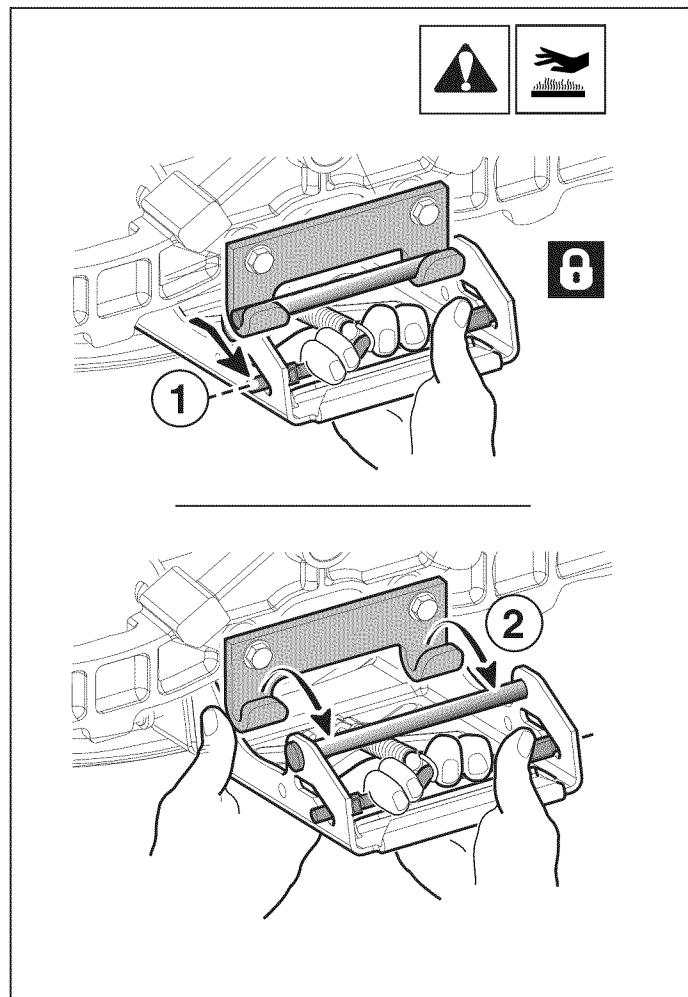

Figure 20
- Turn the wheels straight ahead. Pull back on the spring-loaded lever and lift the mower hitch off tractor hitch bracket (see 1-2, Figure 20).